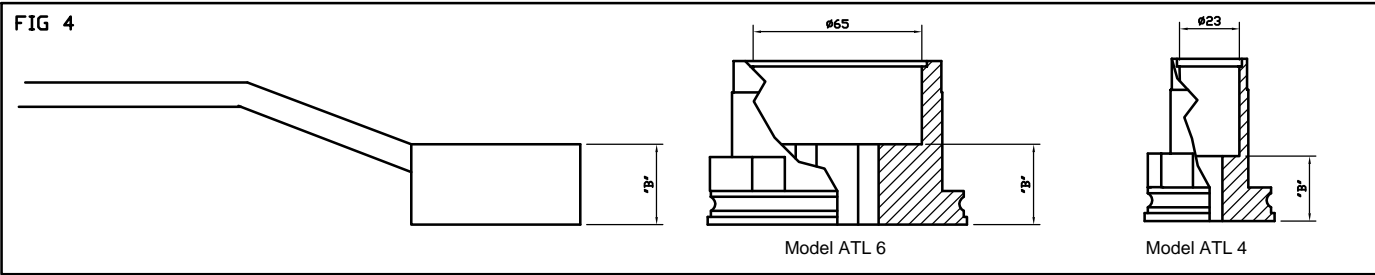

FIG 5
- 6) With lever designs utilizing a retaining nut to retain the lever the original nut is normally used. However if the nut can not then a new retaining nut must be manufactured as detailed (fig 5)